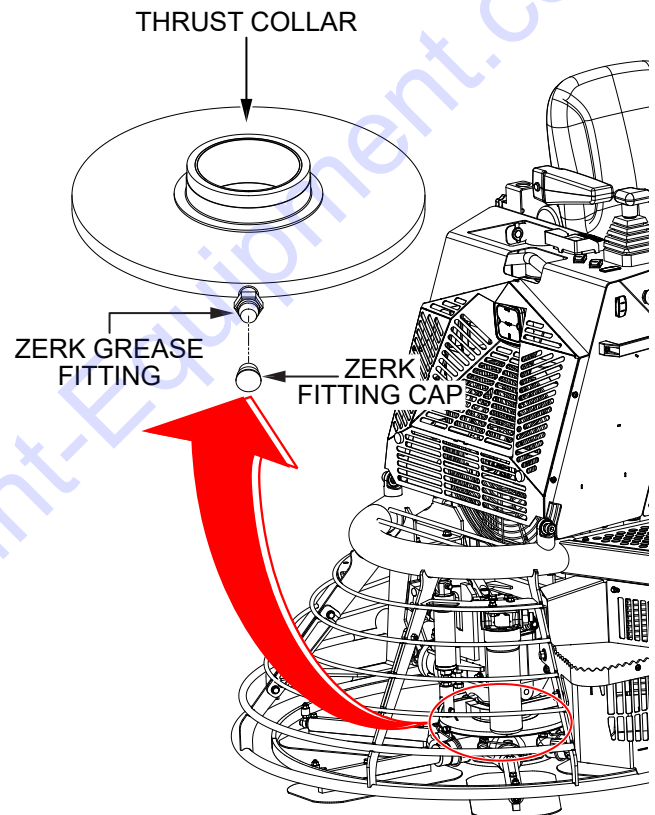

Figure 45. Thrust Collar Lubrication
1. Locate the Zerk grease fitting on either thrust collar (Figure 45). Remove the Zerk grease fitting cap and set it aside.